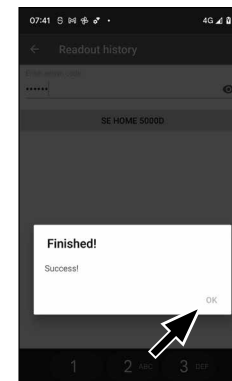

Fig. 93
- ⑧ After retrieval, a confirmation message appears, which you confirm with "OK" (Fig. 93).